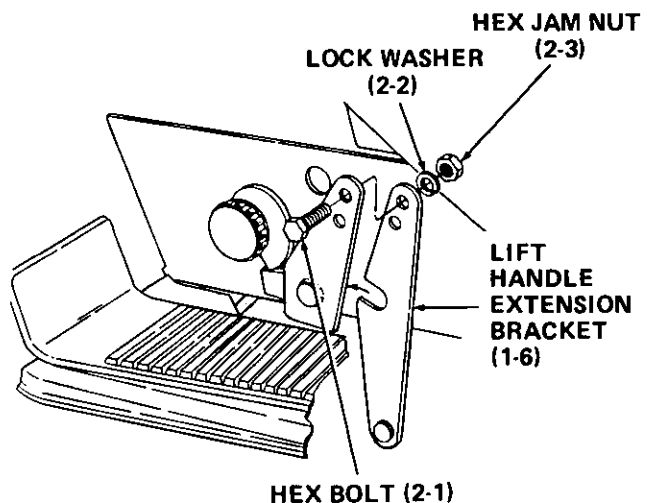

Figure 31
8. FOR STANDARD FRAME TRACTORS WITH HYDRAULIC LIFT ONLY, position lift handle extension bracket (1-6) securely on rocker shaft lift arm as shown in Figure 31. Secure with hex bolt (2-1), lock washer (2-2) and hex jam nut (2-3).